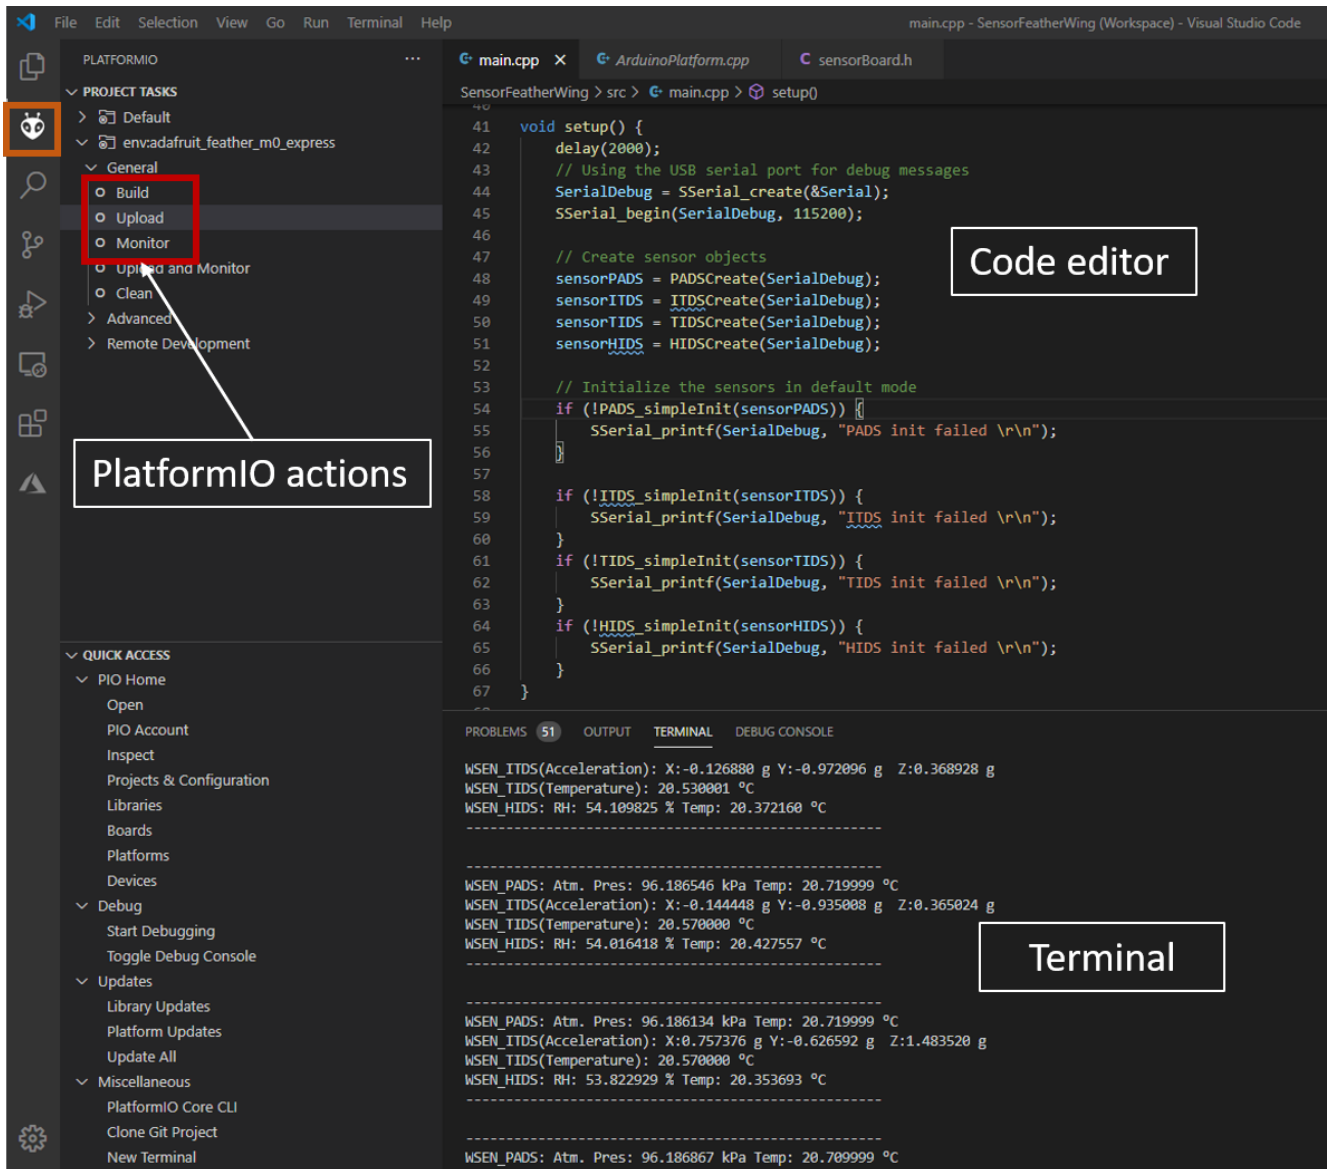

Figure 17: Running the quick start example
- Build and upload the code from the PlatformIO tab as shown in the Figure 17.
- After successful upload, click on Monitor to view the debug logs in the serial terminal (see Figure 17).